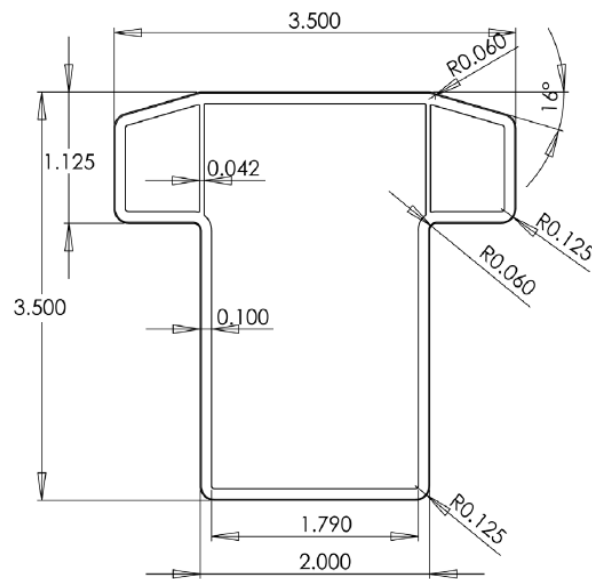

FIGURE 3 – VINYL "T" RAIL
3.1.1 Top rails in the *Fairfield, Brookfield, Charleston, and Lexington* series are a "T"-Rail profile. See Figure 3.